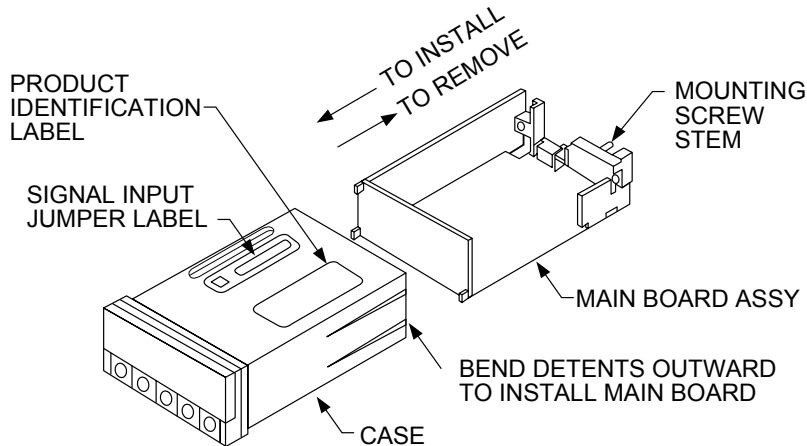

Figure 5-2. Board Assembly Removing/Installing Detail
- Using Figure 5-2 as a guide, bend the side-panel detents on the case outward and pull the board assembly out of the case by the mounting screw stem.
To look at the Rating/Product ID label on the case, you must follow the first step as described in Section 5-2. Refer to Figure 5-2 for the location of the Product Identification label.
The meter's operating voltage is shown in the VOLTS: entry of the Product Identification and Serial Number Label. It is located on the case, as shown in Figure 5-2, and is clearly visible on the meter packing box.